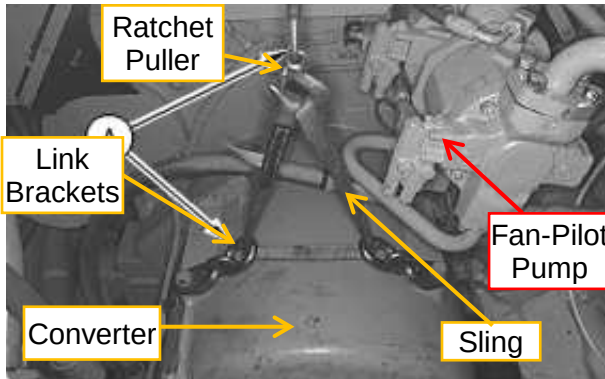

Figure 1. Converter removal according to the Disassembly and Assembly Manual (SENR 1782-08)
The lifting devices used for the removal and installation of components in the equipment must provide protection to the personnel and machine. The technicians in a shop don't always have a specific tool and use some general methods for the removal of components. The Converter for the D11R is an example of this. Such a component is removed by using two ratchet pullers, link brackets, and slings (Figure 1).
- A faster converter removal process when reducing the possibilities of contacting the fan pilot pump, not using slings (See Figure 1).